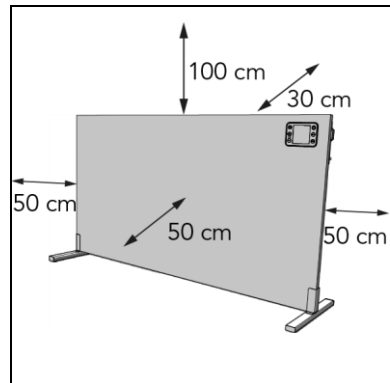

Figure 10
7. Place the device with a minimum clearance distance (Figure 10) of: